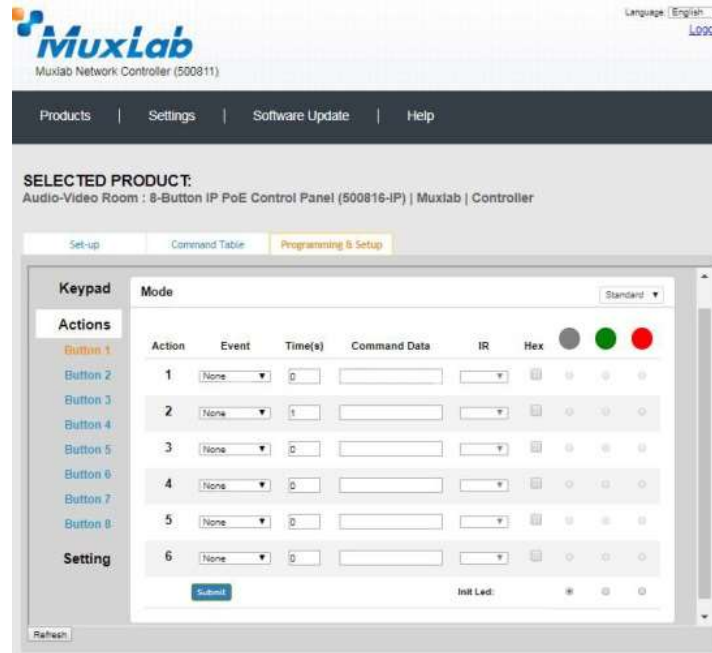

Figure 481: Programming & Setup Tab – Actions
- Keyboard: Allows the user to simulate a button press on the 500816-IP from a computer screen (Figure 481). This can be used to test a button that has just been programmed in “Actions”.